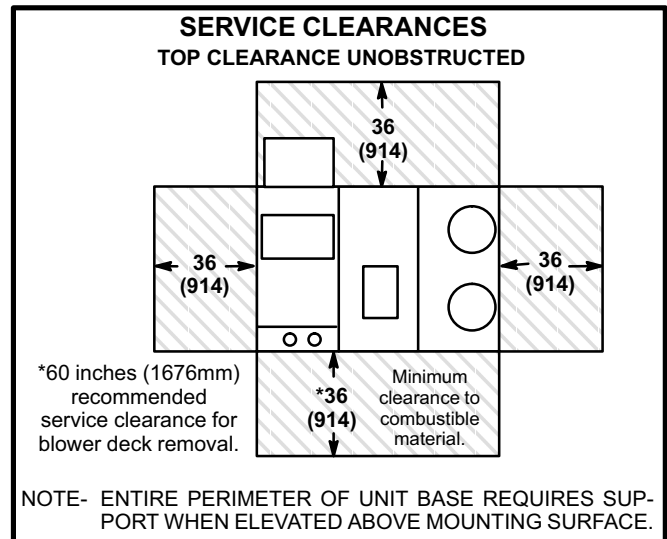

FIGURE 1
The LHA unit is ETL certified for outdoor installations only at the clearances to combustibles materials listed on unit nameplate and in figure 1.
The LHA unit is Canadian Gas Association (C.G.A.) certified as a heat pump with cooling and with or without auxiliary electric heat for non-residential use only at the clearances to combustible materials as listed on the unit nameplate and in figure 1.
- 2- Specified installation clearances must be maintained when installing LHA units. Refer to figure 1.